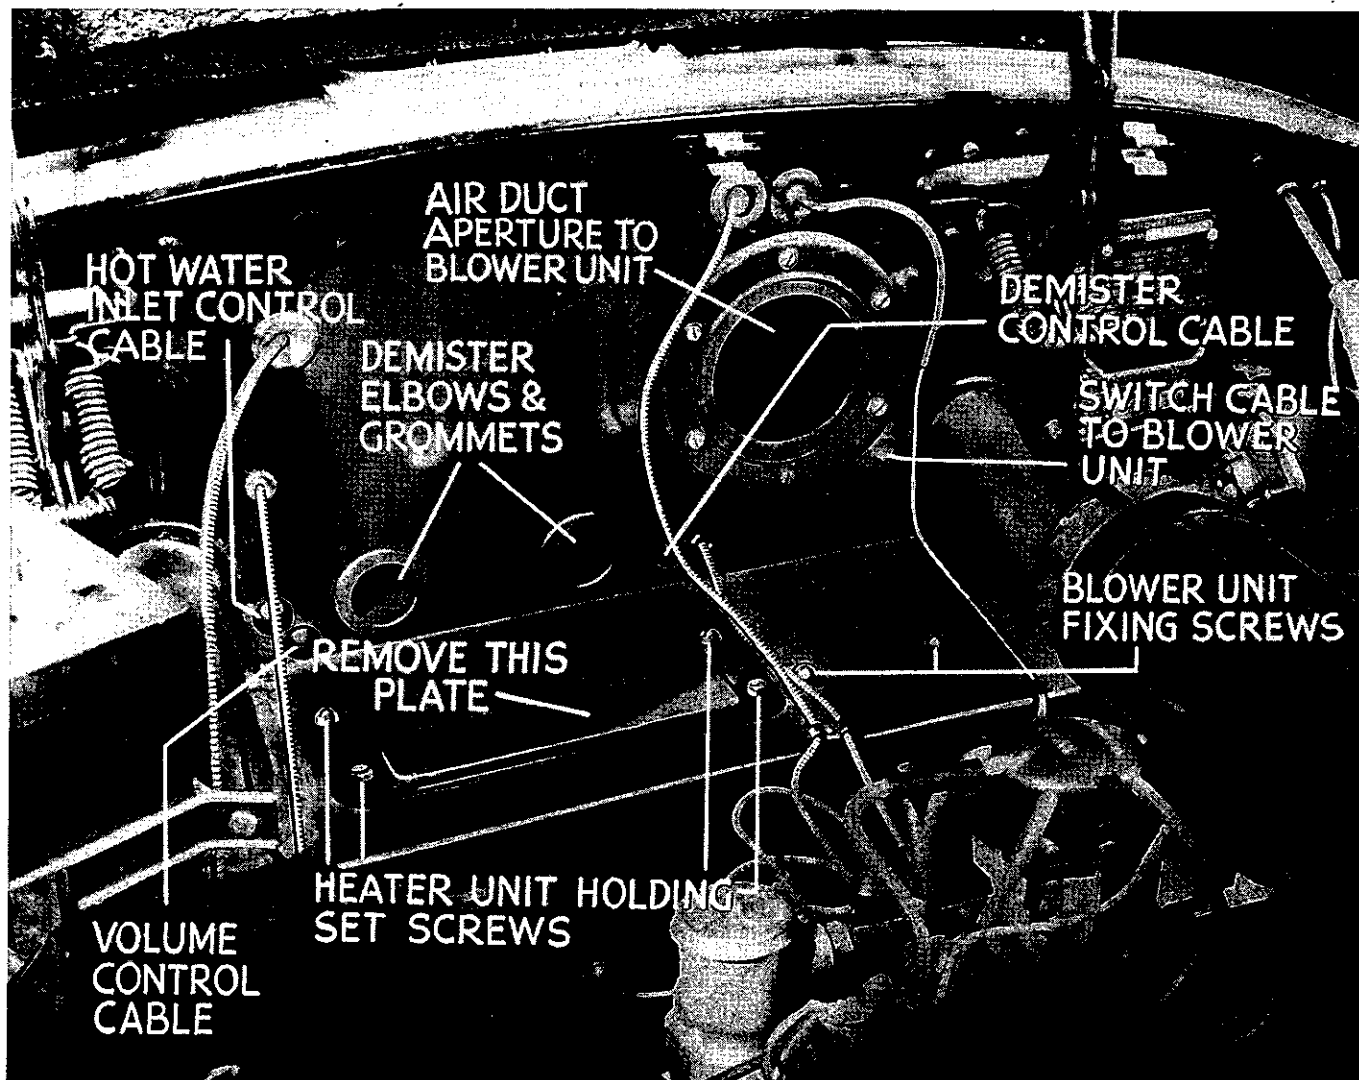

Fig. 2. Showing the position for various heater details and controls.
9. Remove blanking grommets from scuttle as shown in Fig. 2.
2. Fit demister grommets to scuttle in the apertures shown in Fig. 2.
4. Fit control cable grommets to dash as indicated in Fig. 2.